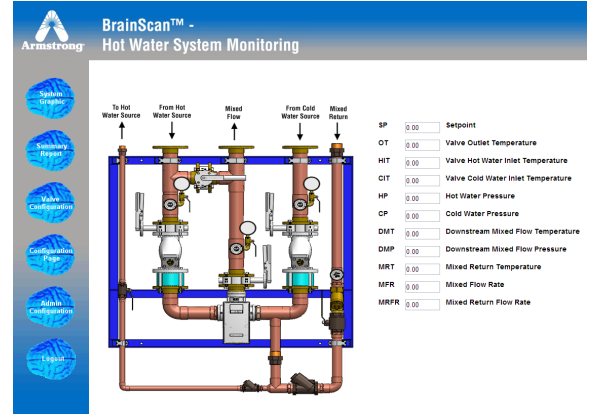

Figure 7-1. System Graphic (DMC1 Model)
*Figure 3-3 shows the locations of the field sensor connections: two (2) pulse-type flow meter connections labeled ST1, eight (8) 4-20mA temperature sensor connections labeled ST2 and ST3 and three (3) 4-20mA pressure transducer connections labeled ST4. As a result, some of the sensor inputs may not be used. Reference Figure 7-1 for wiring schematic.*
These values are updated every ten seconds. An image of the specific Brain DRV or DMC model is shown as well. The image can be changed in the Configuration Page. On the left hand menu are links to the other functions in the BrainScan web browser interface referred to as the 'Navigation Bar'. A screenshot of the system graphic page is shown in Figure 7-1.